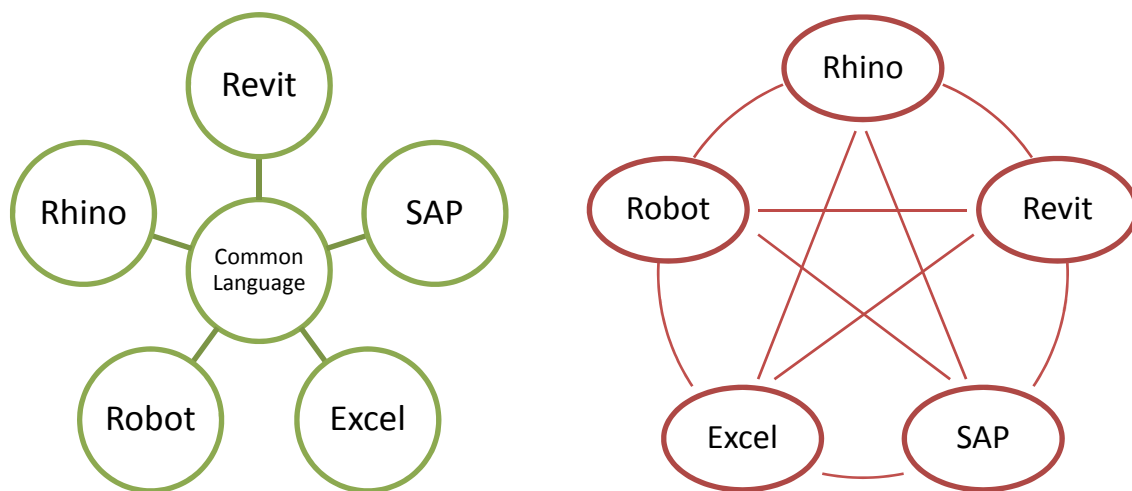

FIGURE 3: SPOKE MODEL VS. WEB MODEL – SPOKE REQUIRES FEWER TOOLS AND MAINTAINS A COMMON SOFTWARE-AGNOSTIC LANGUAGE
- Ideally, tools should all revolve around one common language. It is much easier to develop a common language and a set of translator tools than to develop direct links between all programs (See Figure 3).